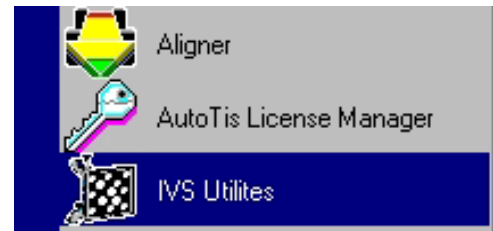

Figure 3-107
3. Enter the IVS Utilities by clicking on <START> <IVS UTILITIES>. (Figure 3-107)